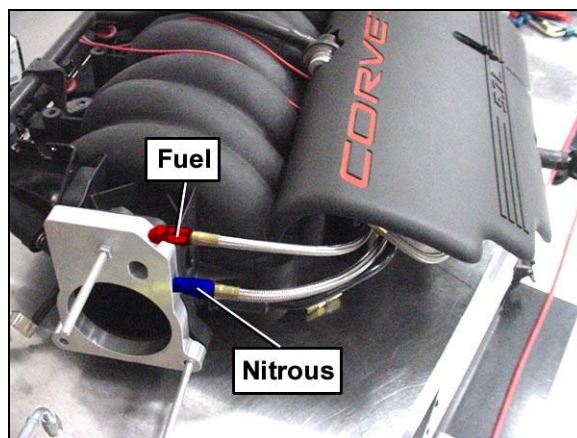

Figure 15
- Run your lines from the solenoids to the plate (**Figure 15**).